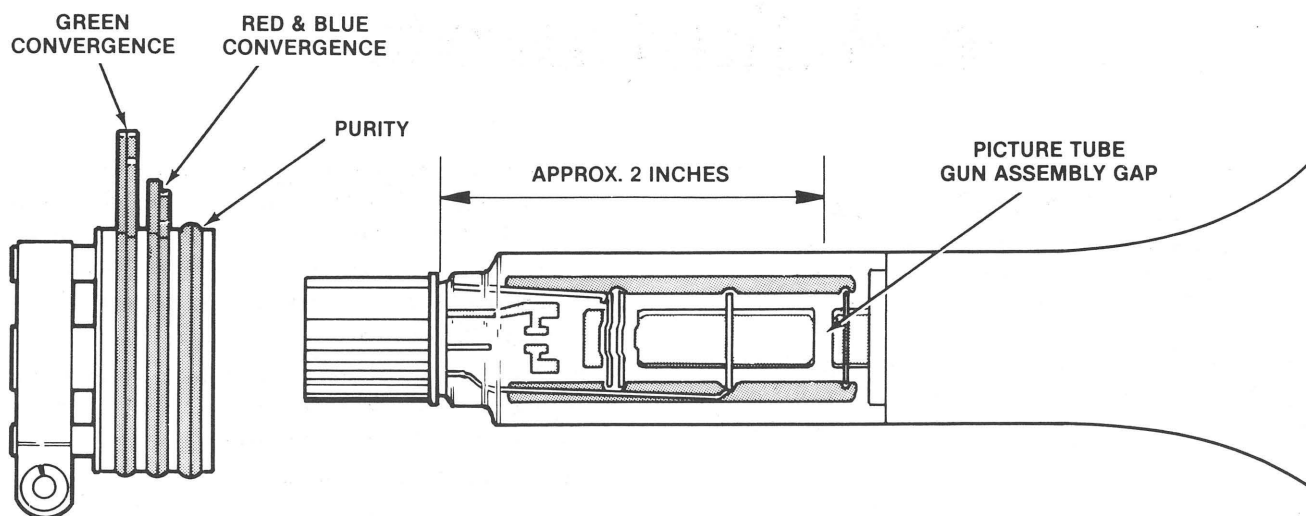

Figure 6 Purity and Convergence Adjustments
- c. Rotate and spread the tabs of the purity magnets until the screen image is centered both horizontally and vertically. (See Figure 6.)